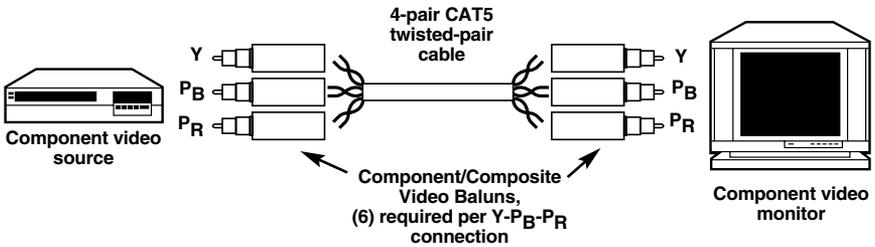

Figure 3-2. Component video connection.
5. Power on the Component video equipment. Check the image quality and refer to **Chapter 4** if the image quality is unsatisfactory. Figure 3-2 shows a typical installation.